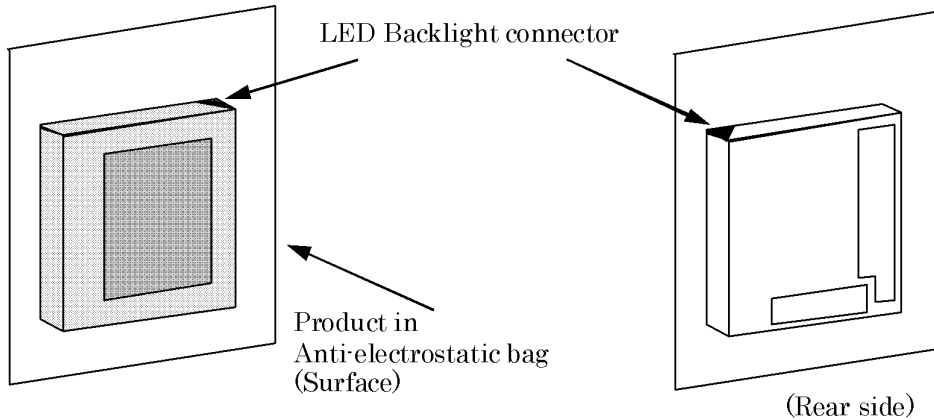

Fig. 7
- (1) Each of LCD modules is packed in anti-electrostatic bag.(Fig.7)